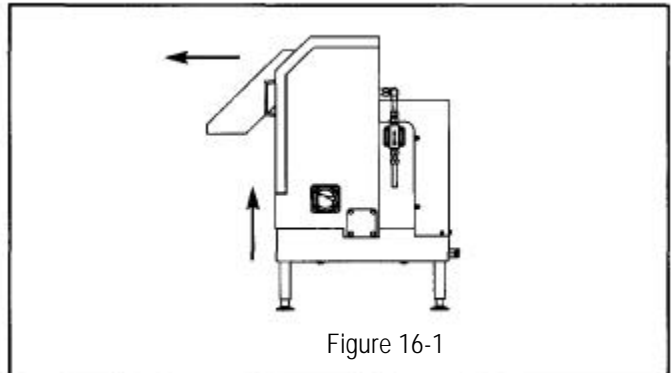

Figure 16-1
2. Holding both handles, remove discharge by tilting upward (see figure 16-1)
3. Remove screws holding the bottom cover in place (see figure 16-1).